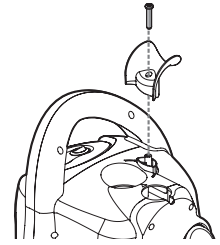

Fig. 1
- Set hose cradle on the top of the cleaner. (Fig. 1)